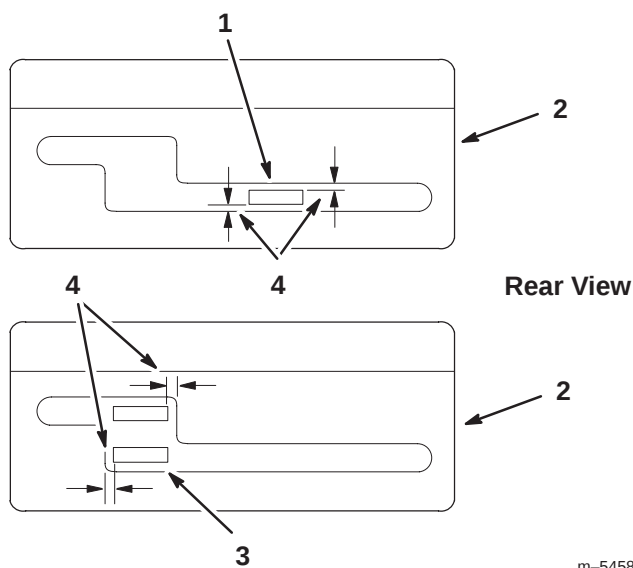

Figure 7
1. Shift lever to second gear and check alignment of lever in slot of shifter lever plate. The clearance between top and bottom of the shift lever should be equal (Fig. 7).
3. Shift lever to neutral and check alignment of lever in slot of shifter lever plate. The clearance on the sides of shift lever should be equal (Fig. 7).